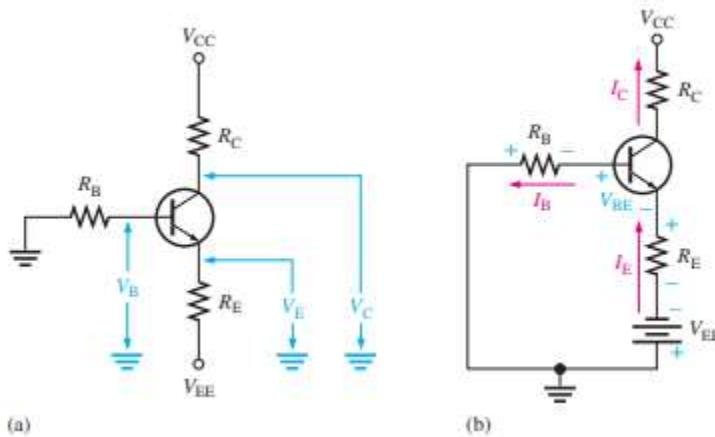

Fig. 2.10: Transistor emitter biasing (similar to the circuit diagram shown in lab # 6, figure6.2)
2.4 Emitter Biasing: Emitter bias provides excellent bias stability in spite of changes in or temperature. It uses both a positive and a negative supply voltage. To obtain a reasonable estimate of the key dc values in an emitter-biased circuit, analysis is quite easy. In an npn circuit, such as shown in Fig2.10, the small base current causes the base voltage to be slightly below ground. The emitter voltage is one diode drop less than this. The combination of this small drop across R_B and V_{BE} forces the emitter to be at approximately -1V. Using this approximation, you can obtain the emitter current as
- The approximation that $V_E \approx -1V$ and the neglect of β_{DC} may not be accurate enough for design work or detailed analysis. In this case, Kirchhoff's voltage law can be applied as follows to develop a more detailed formula for I_E . Kirchhoff's voltage law applied around the base-emitter circuit in Fig. 2.10(a), which has been redrawn in part (b) for analysis, gives the following equation: